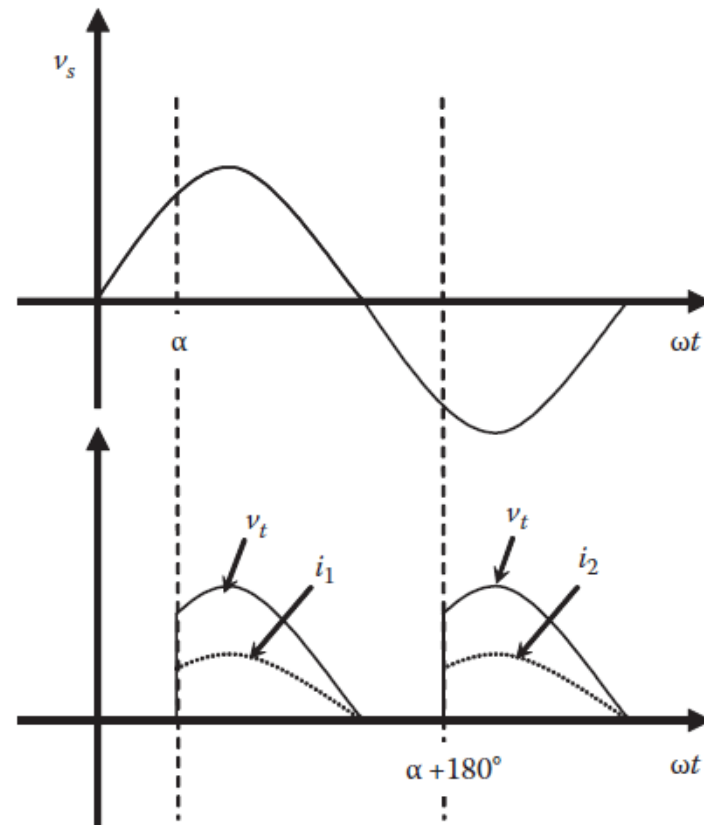

Figure 10.24 Waveforms of full-wave SCR circuit.
- Animation in which load R/L ratio can be changed, if $L = 0$ waveforms are as in Fig. 10.24
- Full-wave rectifier, Figure 10.24